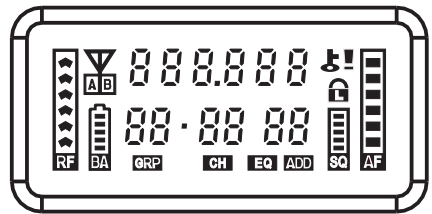

Fig. 9
2. Lightening VFD Screen. Fig. 9: